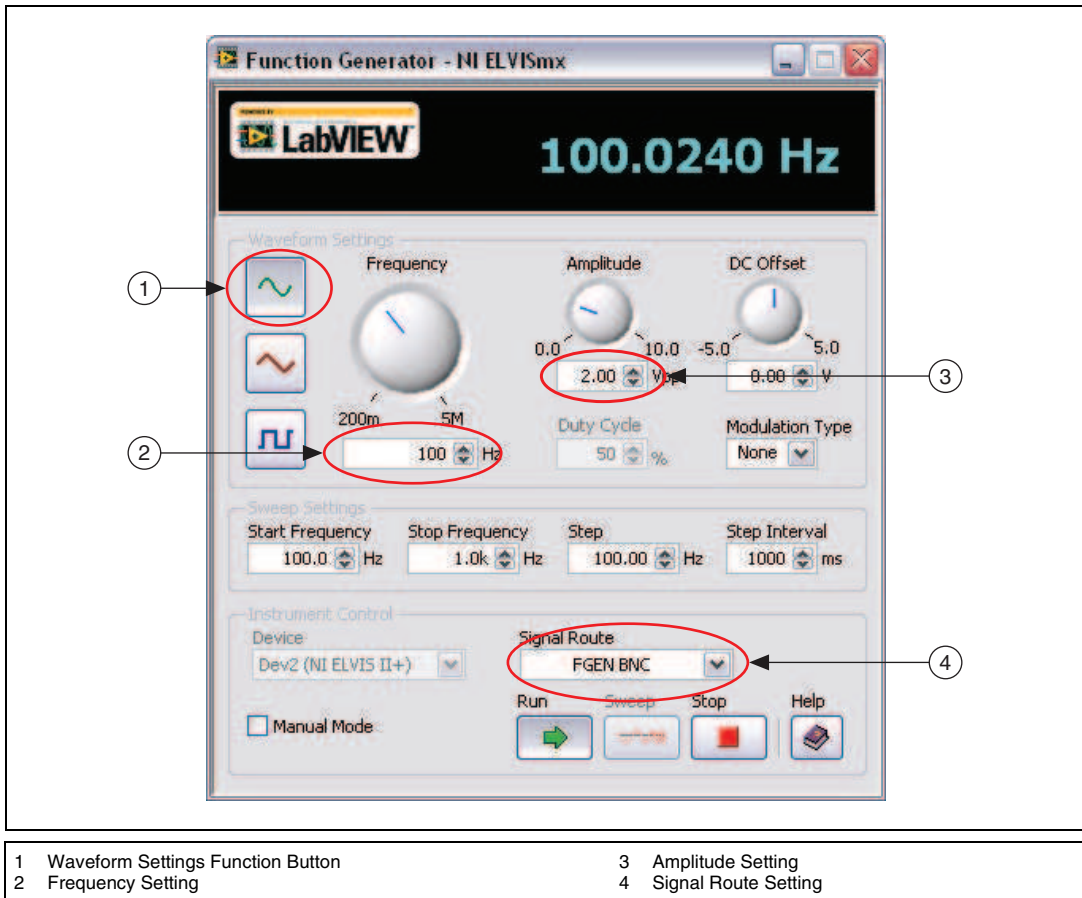

Figure 3. Function Generator Settings
5. Refer to Figure 3 while configuring the FGGEN to output as follows: